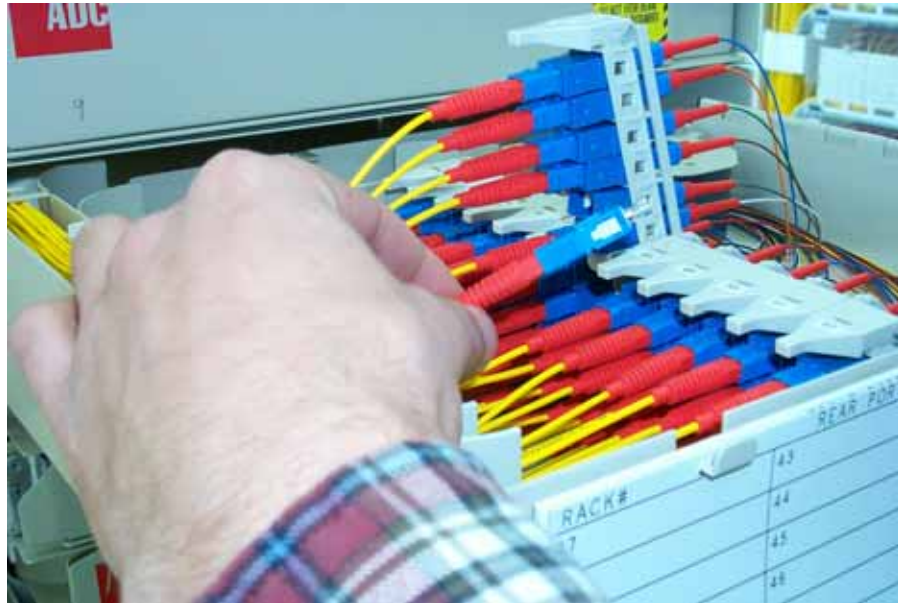

Figure 73. Removing Front Side Connector
4. Remove the front side connector from the adapter pack and immediately cover it with a dust cap as shown in Figure 73. Set aside the front side connector.